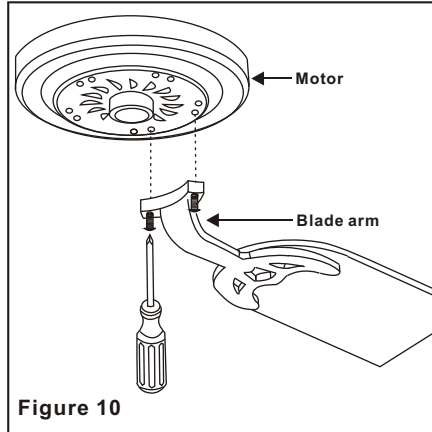

Figure 10
**Step 3** Fasten the blade assembly to the motor using the motor screws provided. (Fig. 10)